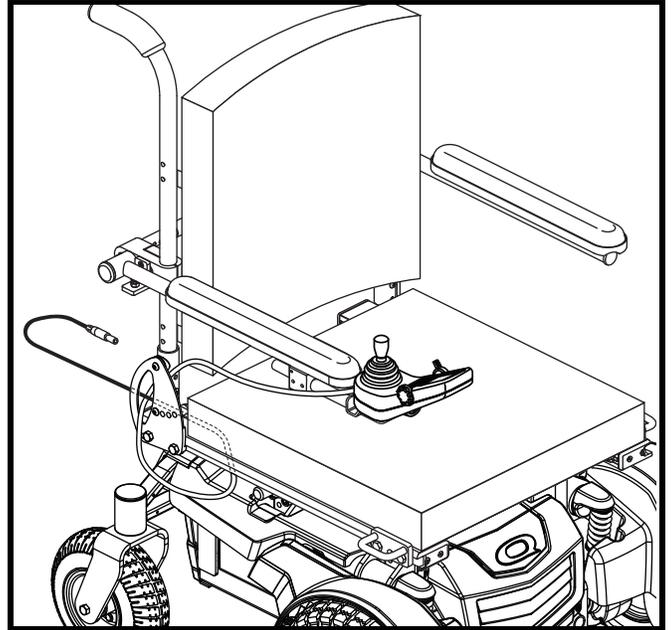

Figure 9. Controller Harness Routing on a Synergy Seat
4. Install the controller and route the harness to the back of the power base. See figures 9 or 10.